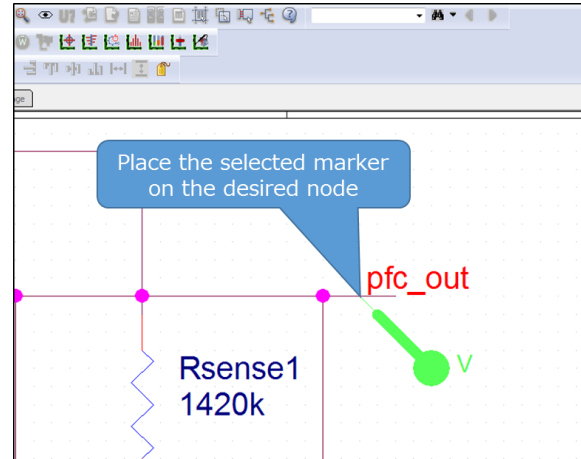

Figure 5.9 Placing a marker in the circuit
2. Place the selected marker on the desired node in the simulation circuit as shown in Figure 5.9.